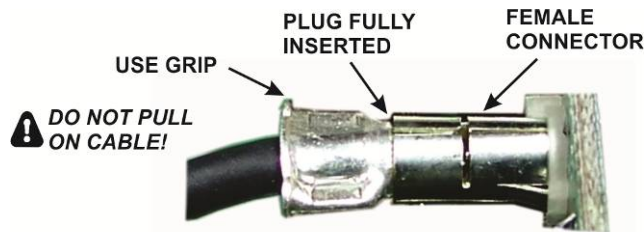

Figure 6. TMP Cable Connectors.
- You can either unplug the coaxial cables or push the module aside to reach the mounting screw for the main synthesizer board. To remove the cables, first remove the five screws securing the top cover and lift it off so you can pull on the metal grip of each connector (see Figure 6). Do not pull on the coaxial cable; you might pull it out of the TMP connector. If you remove it completely, a diagram is provided on page 14 showing all of the required cable connections to reinstall it.
Unplug the coaxial cables from the synthesizer(s). The connectors are a friction fit and pull apart. Pull on the metal “ears” of the TMP connectors, not on the coaxial cable (see Figure 6).